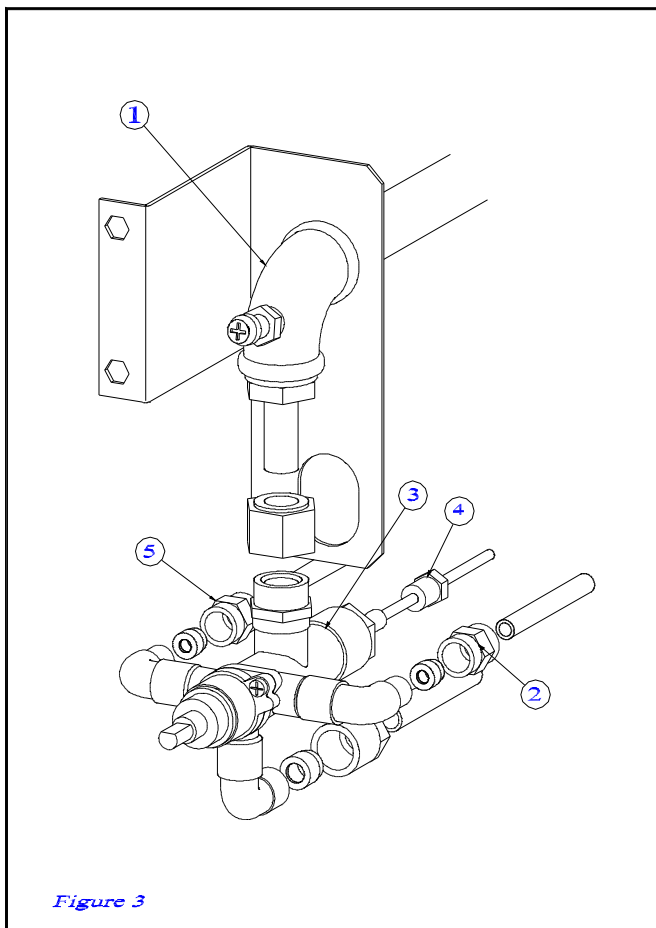

Figure 3
EXCHANGE (figure 3)
SERVICING (figure 3)
REMOVE/REPLACE (figure 3 & 4)
2. Disconnect the Thermocouple (figure 3, item 4) at the rear of the gas control tap.
### REMOVE/REPLACE (figure 3)